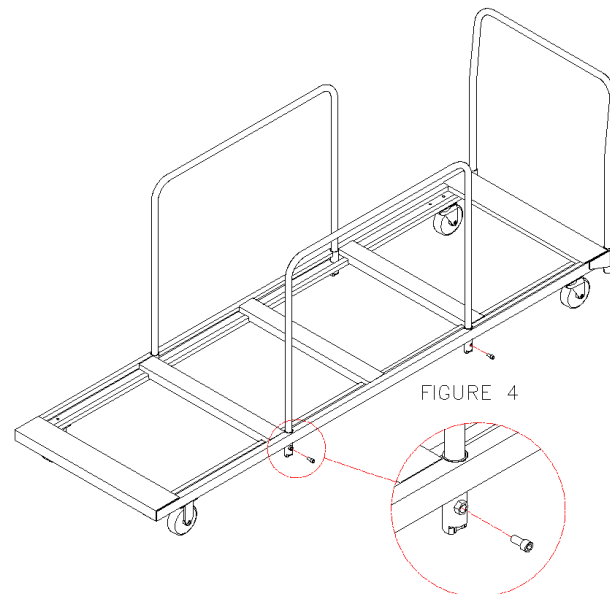

FIGURE 4
3. Start the 3/8" X 3/4" socket head bolts into the threaded nut on the sockets (if not already done -See Figure 4). Do not tighten yet.
5. Secure the handles to the Base by using the wrench provided (See Figure 4).